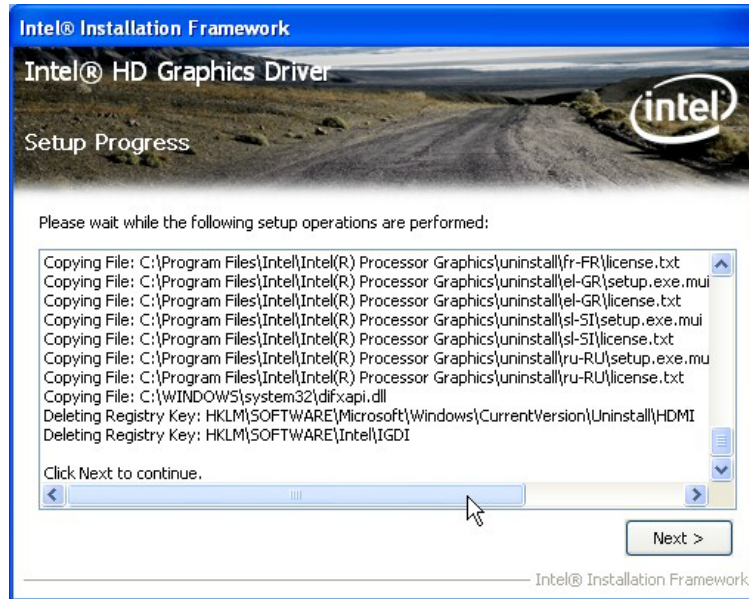

Figure 6-10: Graphics Driver Setup Operations
Step 8: **Setup Operations** are performed as shown in Figure 6-10.